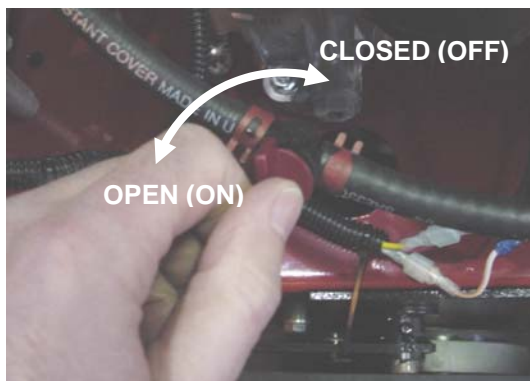

FIGURE 3.9
1. Turn Fuel Shut-Off Valve **ON**. See Figure 3.9.